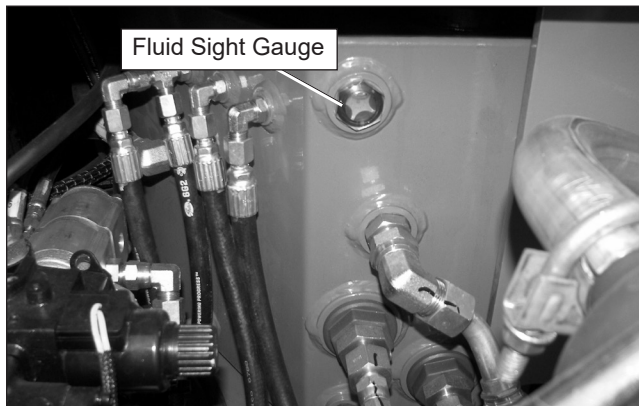

Figure 7.7 – Fluid Level Indicator
3. Visually check to make sure the fluid is visible in the sight glass (refer to Figure 7.7).